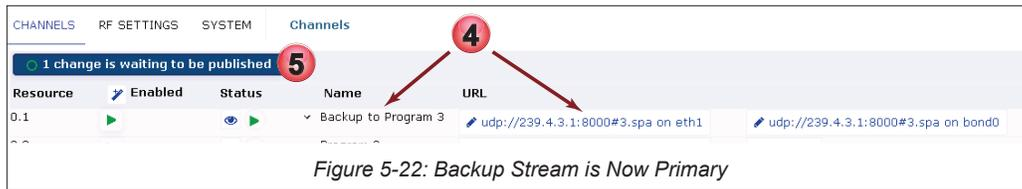

Figure 5-22: Backup Stream is Now Primary
4. The backup feed name is now in the list of channels and the main channel URL has shifted to the left column but the swap is not yet active as the publish button announces **1 Change is waiting to be published**, Figure 5-22.